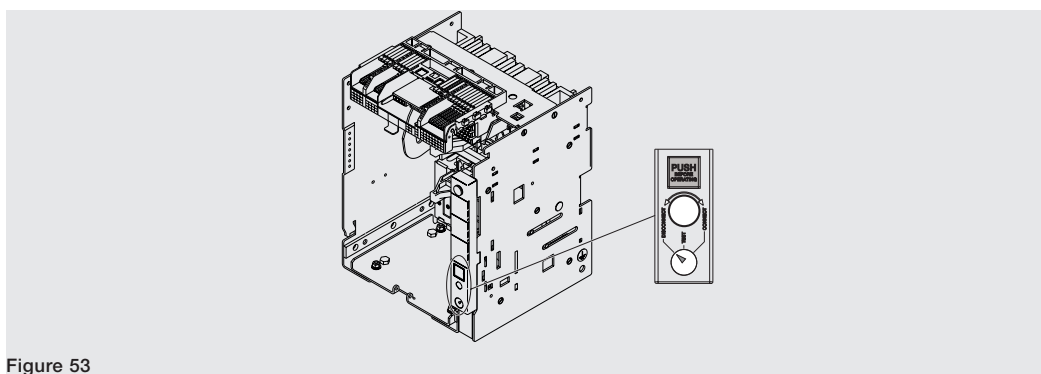

Figure 53
2. Make sure that signalling device on the fixed part indicates the **DISCONNECT** position. See Figure 53.